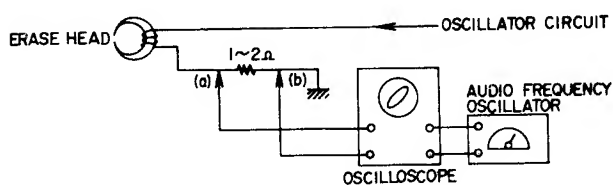

Fig. 1
1. ADJUSTMENT OF RECORDING BIAS FREQUENCY (See Fig. 1)
- B. In certain instances, Bias Frequency is measured by connecting the Frequency Counter, leader wire to points (a) (b) as shown in Fig. 1 and reading the Frequency Counter indication.